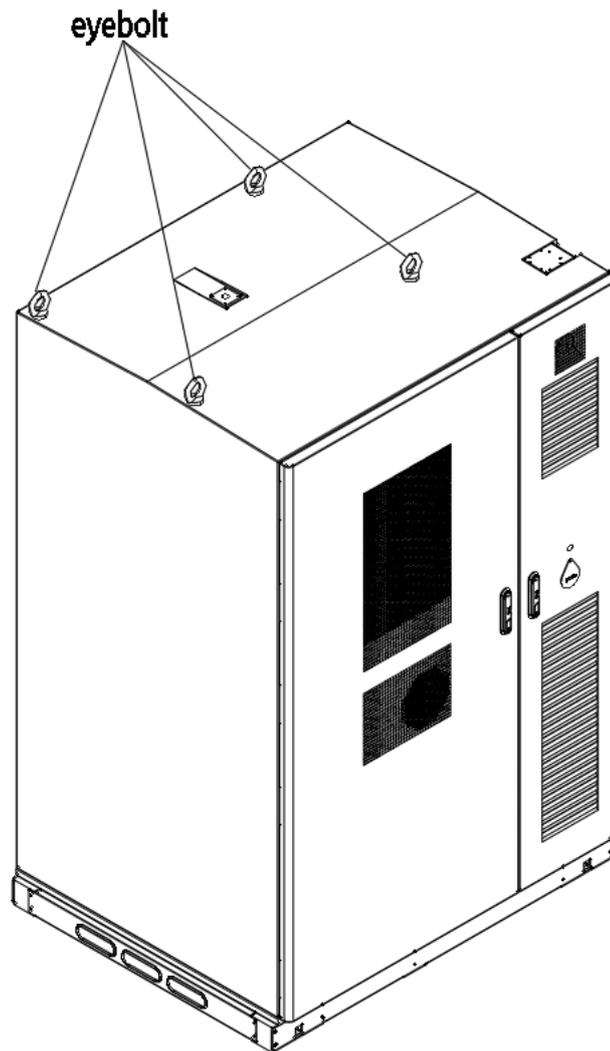

Figure 4-5 Schematic of the Energy Storage Cabinet Lifting Ring Installation
- ④ Screw the M24 lifting ring into the installation position on the top of the energy storage cabinet, ensuring that the lifting ring is fully screwed in and not loose, as shown in Figure 4-5: the same operation applies to the combiner box;